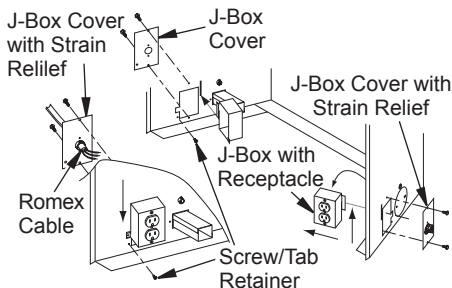

Figure 34 - Relocating Junction Box Receptacle and Electrical Supply Connection
1. Remove 2 screws and outer cover with strain relief bushing on right side of cabinet (see Figure 34).
8. With junction box cover removed, pull the end of 3-wire Romex supply line through universal strain relief bushing on cover. (see Figure 34).